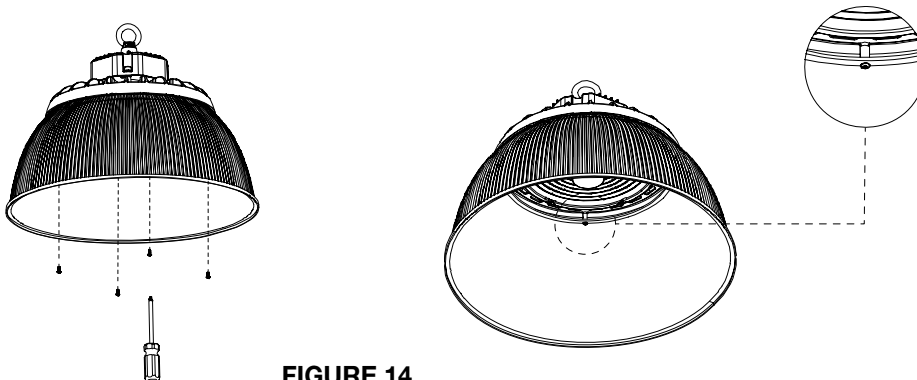

FIGURE 14
1. Lock in the polycarbonate reflector to the fixture with screws and tighten (Figure 14).